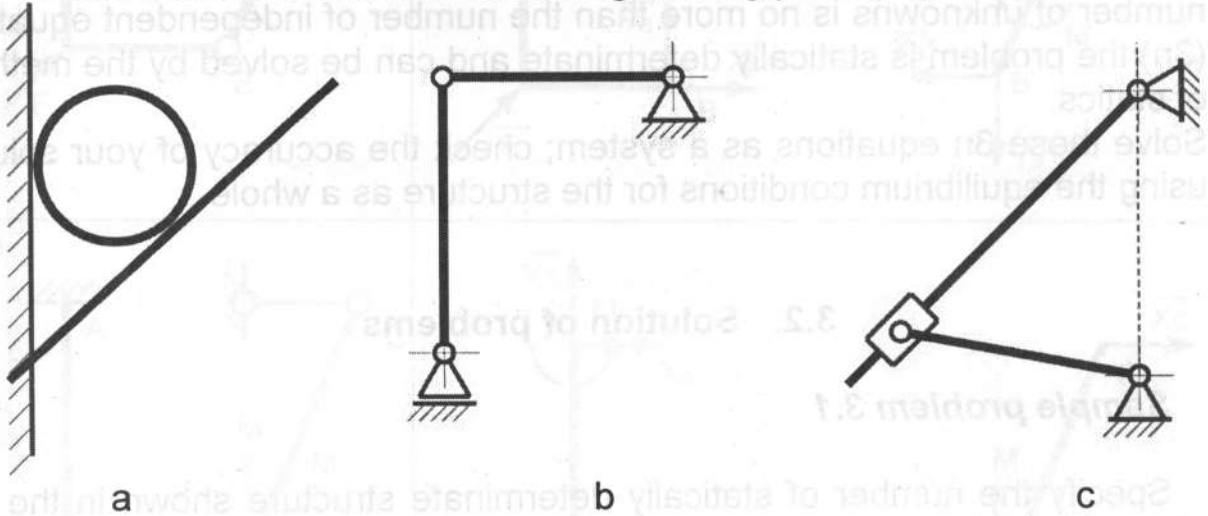

Fig. 3.1
- Sets of bodies that simply supported (Fig. 3.1,a)
- Frames that are engineering structures designed to support loads, frames are usually stationary fully constrained structures (Fig. 3.1,b)
- Machines that are engineering structures designed to transmit and modify forces and are structures containing moving parts (Fig. 3.1,c).